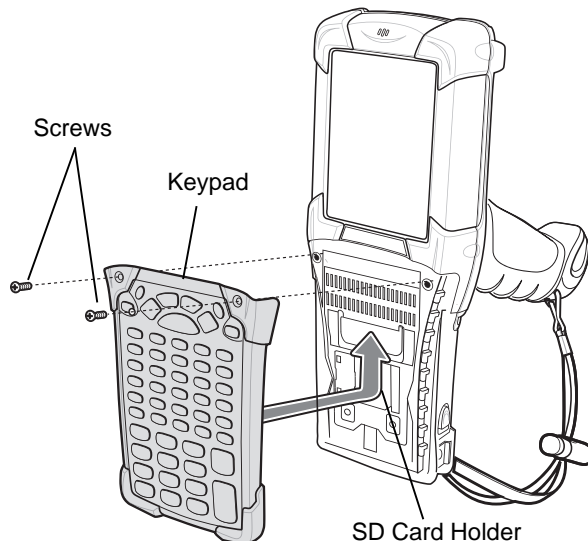

Figure 2-1 Removing the Keypad
The SD card provides secondary non-volatile storage. The SD card is located under the keypad (see Figure 2-1).
2. Remove the two keypad screws and slide the keypad down and lift off (see Figure 2-1 on page 2-4).